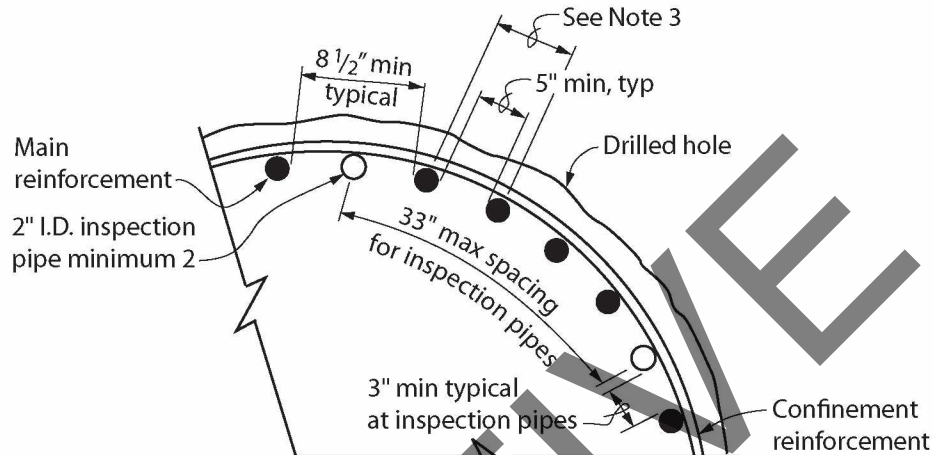

Figure 3-1. Single Bars, Partial Plan View
2. Inspection pipes are placed around the shaft in contact with the inside of the outermost hoop or spiral reinforcement as shown in Figures 3-1 and 3-2.